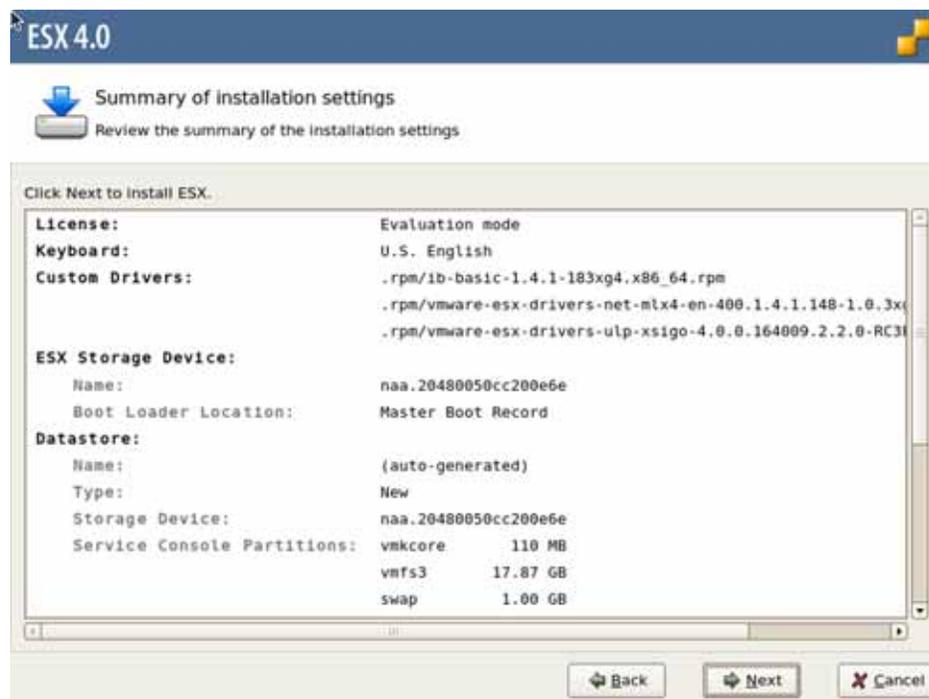

Figure 31 ESX Installer — Review iSCSI Boot and Other Settings
Step 20 When all ESX drivers and Xsigo host drivers, and iSCSI Boot options are specified, verify the intended configuration by reviewing the Summary of Installation dialog. Figure 31 shows an example of this dialog for illustrative purposes only. Your actual dialog will differ.